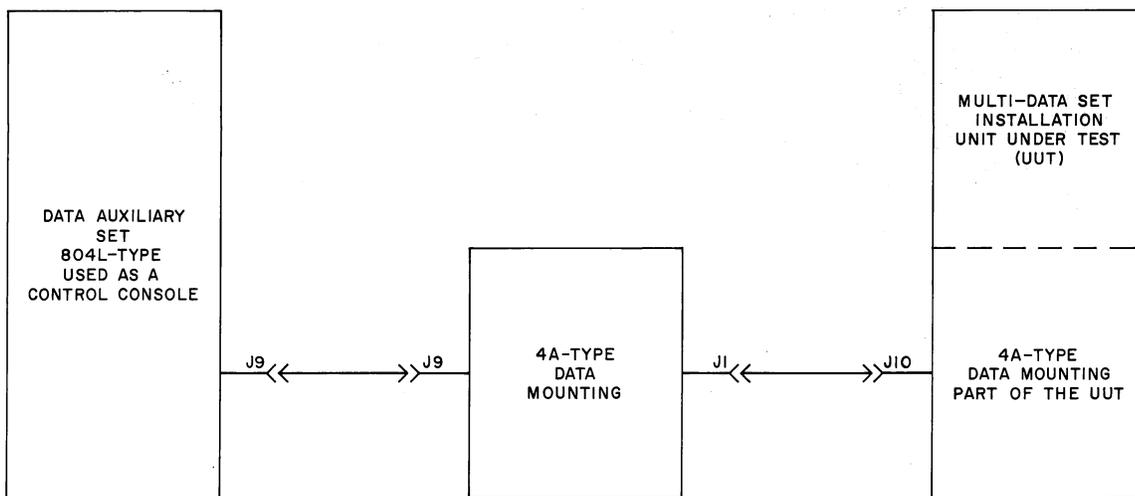

Fig. 3—Connections Required For Substituting a Data Auxiliary Set 804L-Type For a Control Console
**2.03** In some cases it may be desirable to simulate a control console. This can be accomplished by using a Data Auxiliary Set 804L-type and a 4A-type Data Mounting. The connections required for substituting a Data Auxiliary Set 804L-type and 4A-type Data Mounting are given by Fig. 3. This type of substitution might be helpful in locating a trouble condition or when checking an 804L installation prior to completion of the associated console.